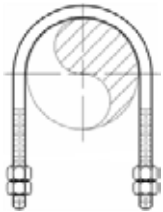

Fig. 1.2.49 Round bend U-bolt
5. Miscellaneous pipe support devices are shown in Fig. 1.2.49 to 1.2.51.